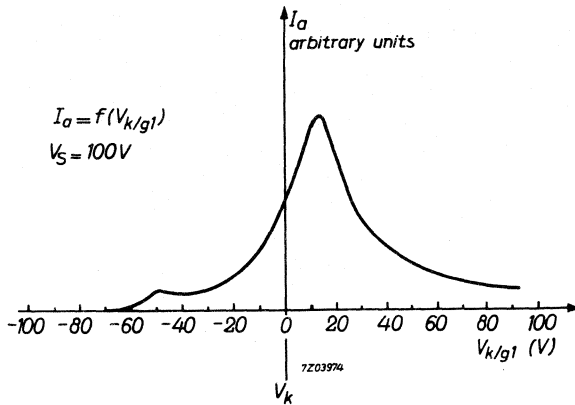

Fig.1 Anode current variation with the adjustment of g_1
- a. the most satisfactory collection (i.e. for a given luminous flux the largest obtainable anode signal); for this adjustment, see Fig.1; the optimum value of the potential is about $0.15 V_S$;